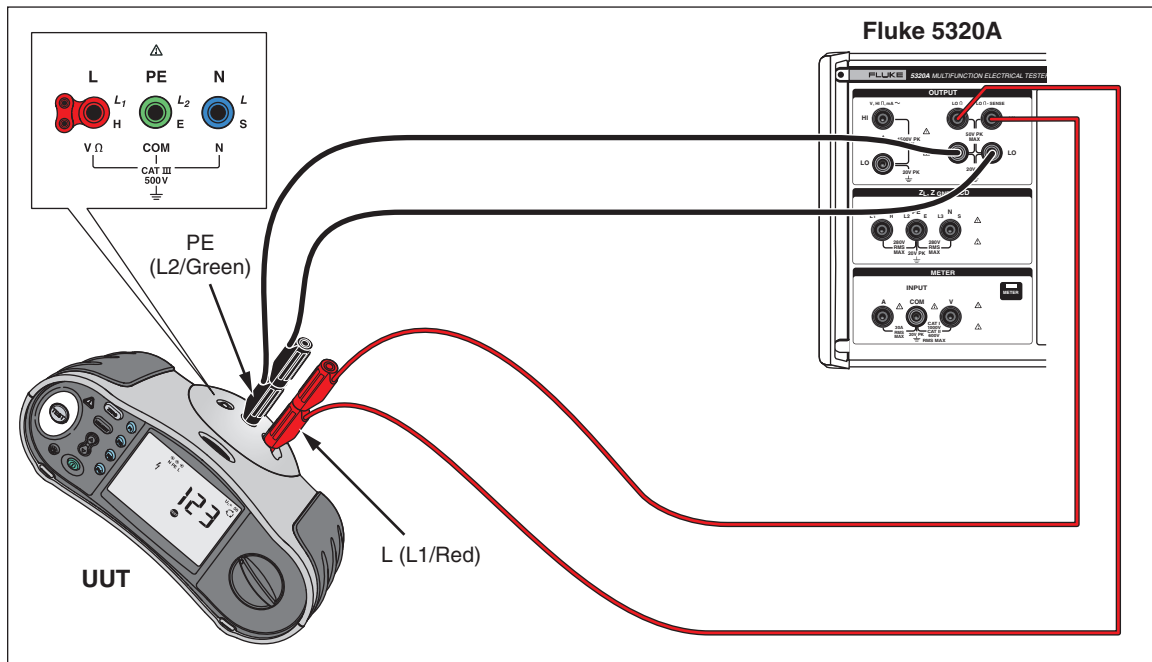

Figure 6. Continuity Tests (4-Wire Connection)
5. Connect the measurement test leads to the UUT L and PE input jacks in a 4-wire configuration as shown in Figure 6.
6. Connect the UUT test leads to the 5320A LO Ω Output terminals as shown in Figure 6.